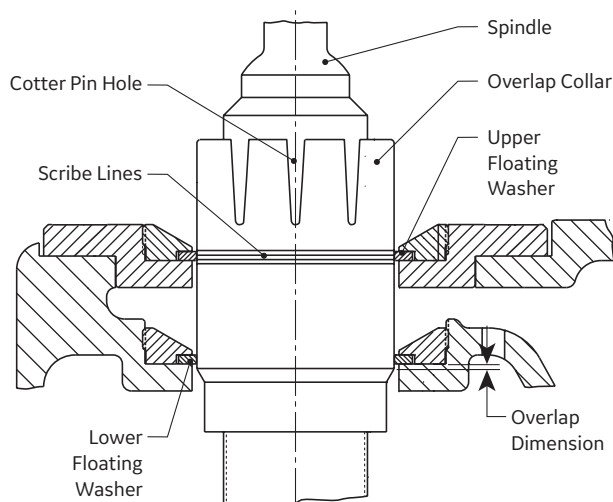

Figure 12: Collar and Spindle Assembly
8. Remove the overlap collar cotter pin from the collar and spindle assembly. Note which overlap collar notch is opposite the cotter pin hole in the spindle (See Figure 12). Carefully counting each collar notch that passes in front of the cotter pin hole in the spindle, begin rotating the collar counterclockwise until the bottom line (of the four lines) on the collar is even with the upper floating washer. Record the number of overlap collar notches that passed in front of the cotter pin hole in the spindle, as this information will be required to correctly re-assemble the valve.